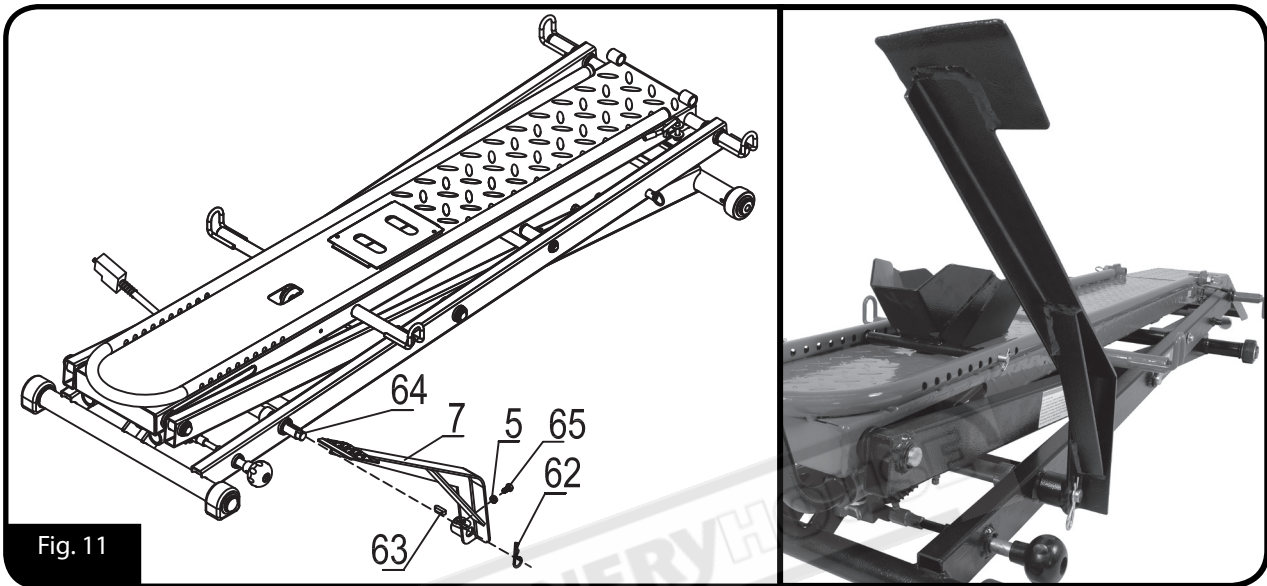

Fig. 11
STEP 1: Attach Foot Pedal (Fig.11)